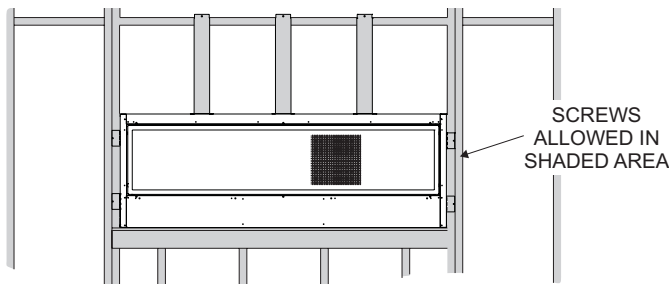

Figure 43
- Screws are allowed in framing and top mounting brackets. No screws are allowed into the fireplace. **See Figure 43.**